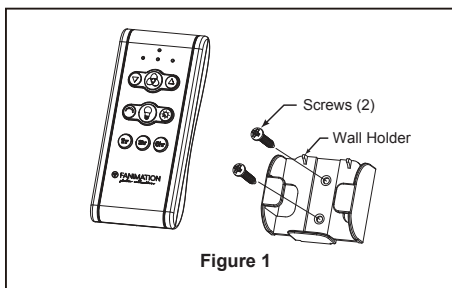

Figure 1
- ☐ 1. To set the code on receiver unit, slide dip switches to the same positions as set on the remote. (Figure 1)
- ☐ 1. Assemble canopy by rotating key slot in canopy over shoulder screw in hanger bracket, taking care not to pinch the wires. Tighten shoulder screw. Fully assemble and tighten second shoulder screw that was previously removed. (Figure 1)
- ☐ 1. Remove one of the three screws in the support bracket at the bottom of the motor assembly and retain the screw for later and slightly loosen the remaining two screws. (Figure 1)
- ☐ 1. **IMPORTANT:** Using a full range dimmer switch (not included) to control fan speed will damage the fan. To reduce the risk of fire or electrical shock, do not use a full range dimmer switch to control the fan speed. (Figure 1)
1. Installing Wall Holder: (Figure 1)